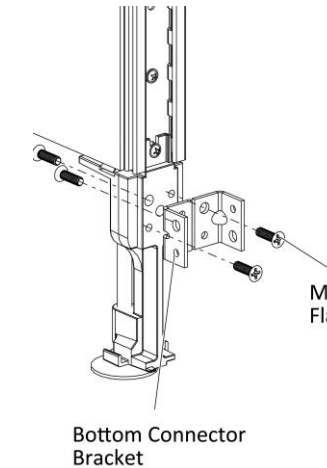

Figure 8
- Position the two bottom corner brackets of the fourth panel, (Figure 8).